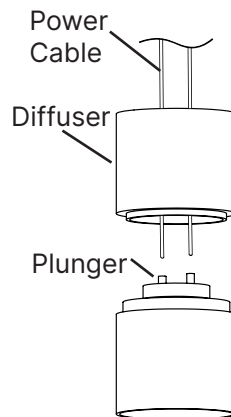

Fig. 19
3. Insert **Power Cables** into holes of **Through Cylinder Luminaire** ensuring that the plungers are facing upward. If necessary, unscrew **Diffuser** to get easier access to **Plungers** (Figs. 19 & 20)